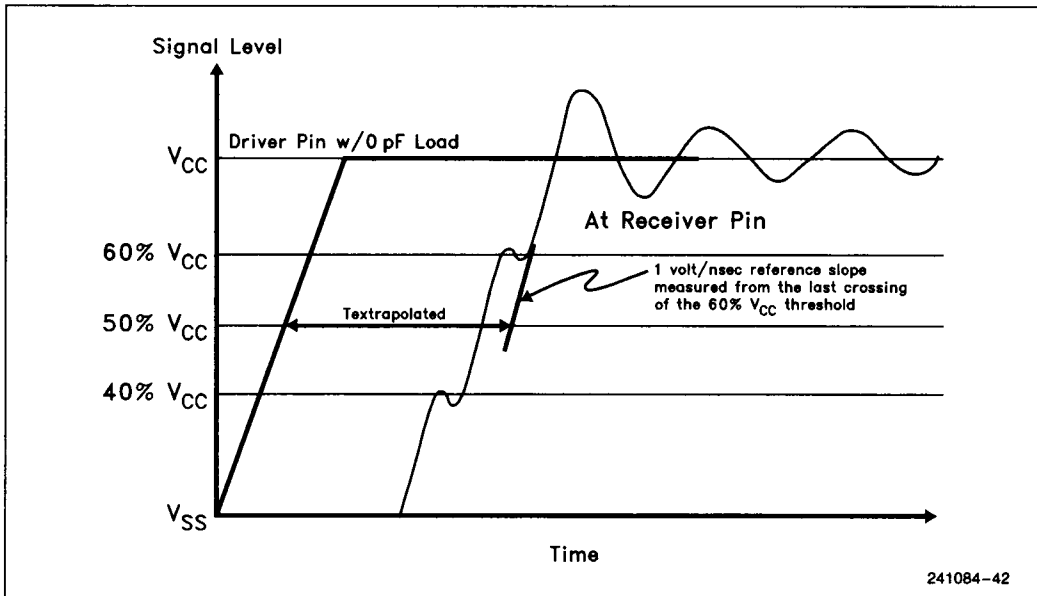

Figure 4.15. How to Measure Flight Time with Multiple Crossings of the Threshold Voltage
1. The method of measuring Flight Times discussed earlier in this section assumes that the signal at the receiving pin is increasing monotonically at the 50% and 60% V_{CC} threshold voltages for low to high transitions (decreasing monotonically at the 50% and 40% V_{CC} threshold voltages for the high to low transitions). If the signal wave form at a receiving input does not increase monotonically through these threshold voltages, but instead has some "ringing" as shown in Figure 4.15 then the proper measurement point for determining Flight Time is the last crossing of the specified measurement voltage (50% and 60% V_{CC} for low to high transitions, 50% and 40% V_{CC} for high to low transitions). **Do not confuse the use of the term "ringing" as it is used here with the Signal Quality specification, Ringback, which is discussed in the next section.**